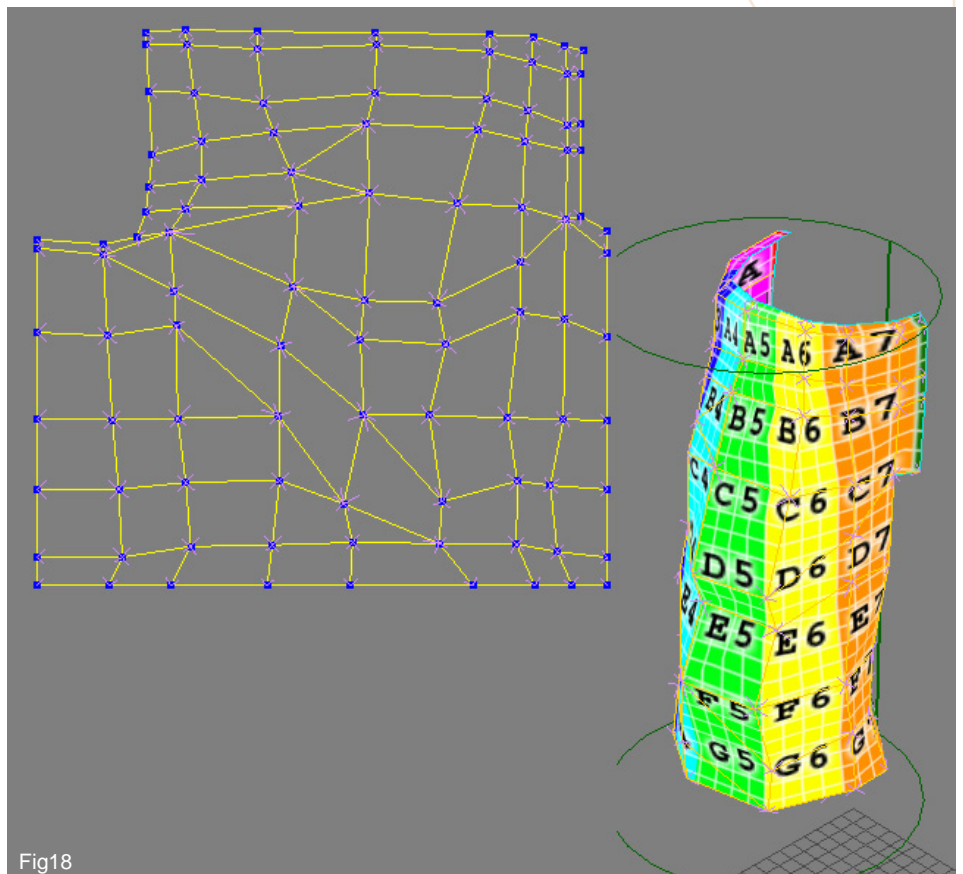

Fig18
18. Let's move on to the limbs. As you can see in Fig18, only one half of the legs were mapped. It is the same technique we used for the head. Keep only one half of the legs, map it, mirror it and its coordinates in the texture editor and re attach the two halves together.